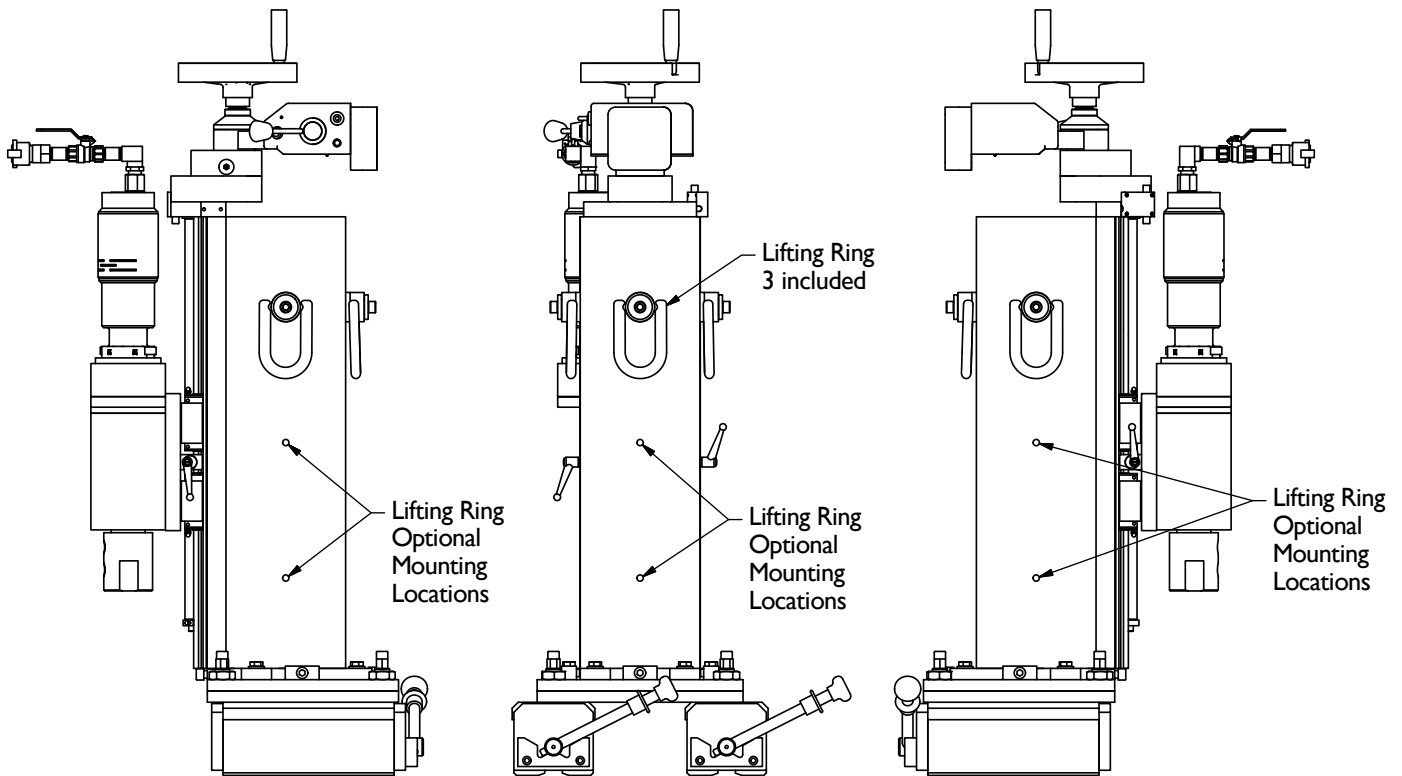

Figure 1 - Lifting Ring Mounting Locations
- I. The boring mill is supplied with three lifting rings. The lifting rings can be installed in different locations to allow the mill to be lifted vertically, horizontally, or at an angle. Select the lifting ring mounting locations that will best balance the load. See Figure 1 for lifting ring mounting locations.